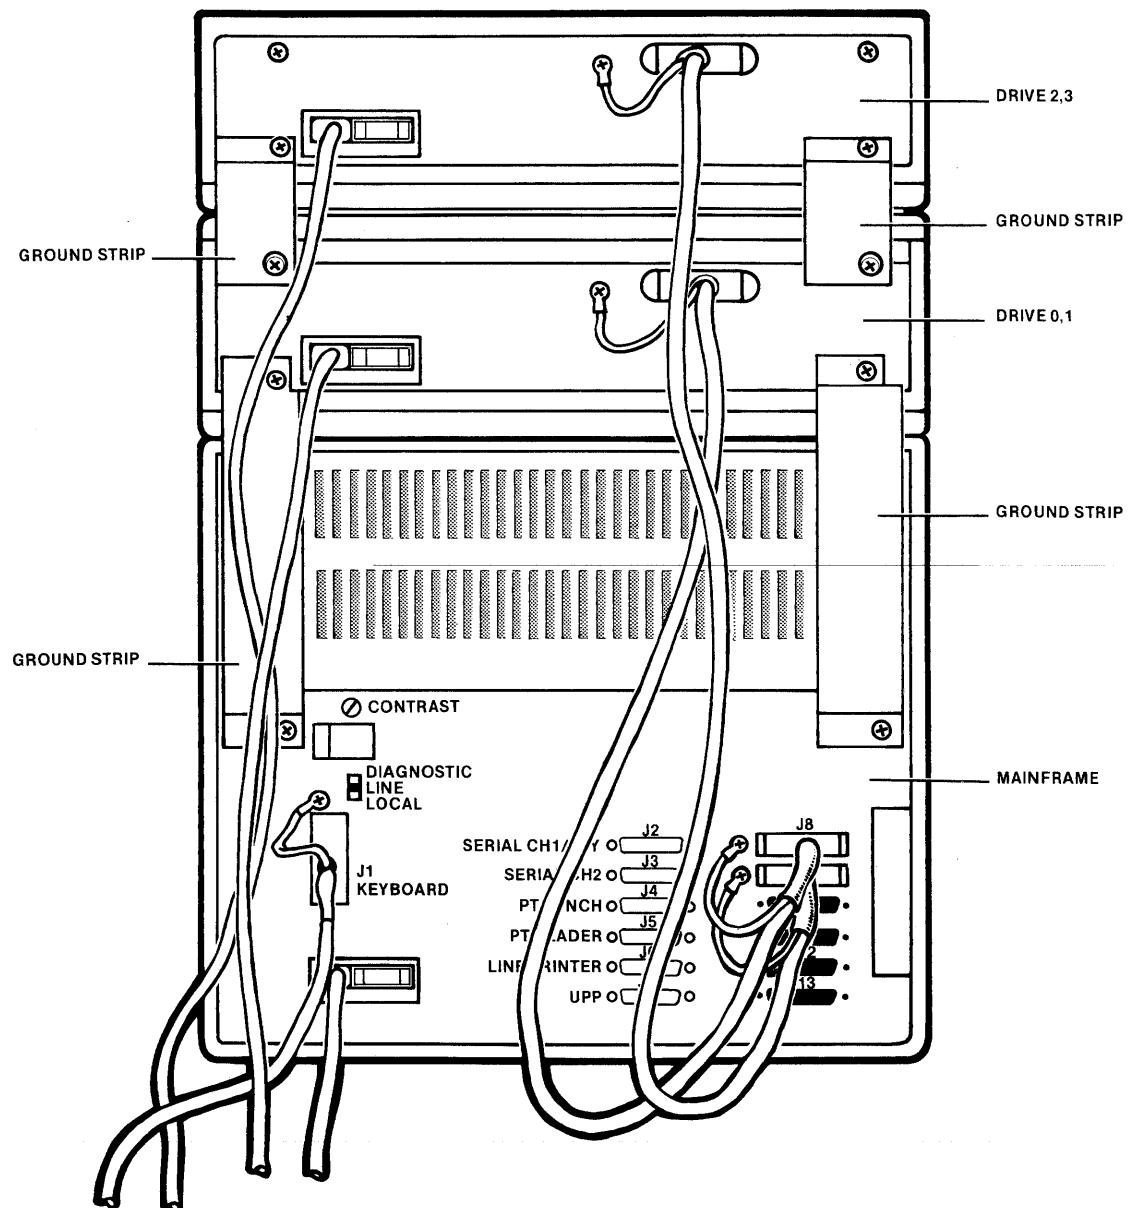

Figure 5-13. Diskette Drive/Mainframe Cabling Details
- Refer to figure 5-13 and remove ground strips between the mainframe and Drive 0, 1. Remove drive(s) from top of mainframe.